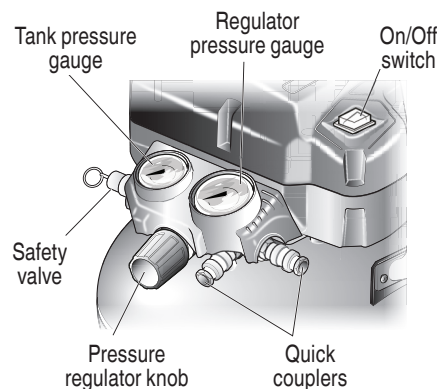
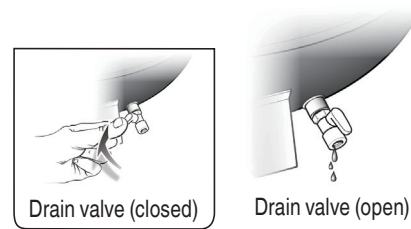

Fig. 3
Fig. 4
- Insert the hose into the quick coupler already installed on the compressor (Fig. 3).
- Turn the pressure regulator knob fully clockwise to open the air flow. (Fig. 3)
- Place the switch in the **OFF (O)** position and plug in the power cord.
- Open the drain valve completely (Fig. 4).
- Turn the air compress **ON (I)** and run the air compressor for 10 minutes to break in pump parts.
- Place the switch in the **OFF (O)** position.
- Close the drain valve (Fig. 4)